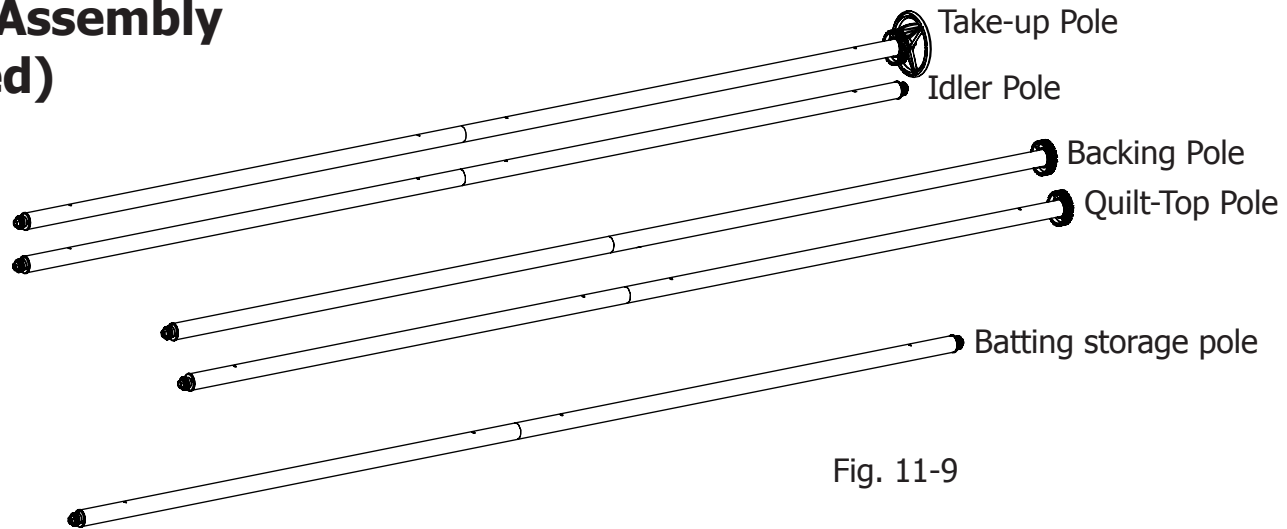

Fig. 11-9
**11-16:** Repeat **Steps 11-14** and **11-15** to complete the **quilt-top pole**. Set both poles aside (**Fig. 11-9**).
**11-17:** In same manner, slide the long-bolt ratchet wheel assembly and hand wheel assembly into the open end of the remaining pole assembly and while holding the complete assembly tightly into the open end of the pole, tighten the lock nut, using the 17/13mm wrench. Check to be sure the hand wheel engages the ratchet wheel assembly and does not spin loosely and that the 3 tabs of the outside pole end align with the 3 holes in the ratchet wheel. This completes the **take-up pole (Fig. 11-9)**.